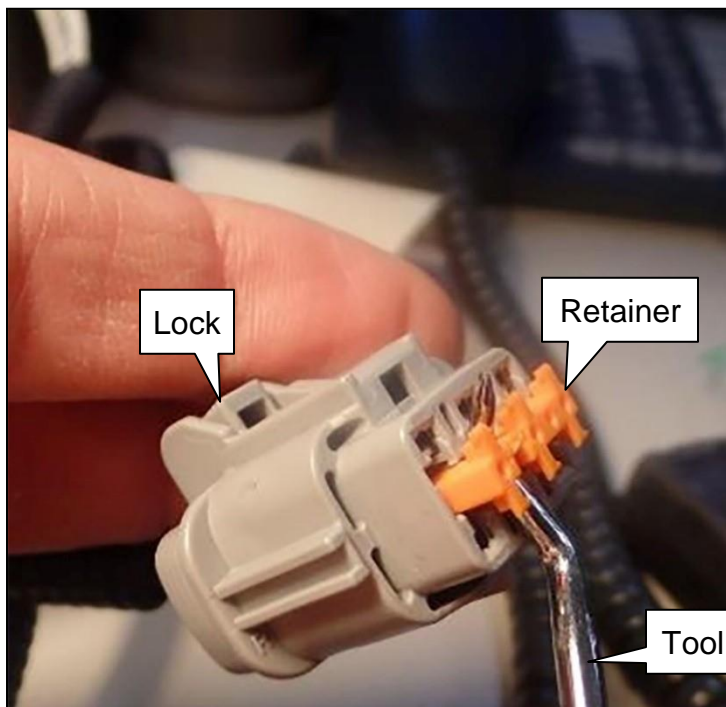

Figure 6
12. Remove the retainer by inserting a suitable pick in the notched hole and carefully prying out (Figure 6).